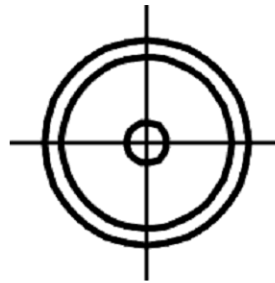

Figure 2
3. Center copies of Figure 2 under each leg to be surface mounted. Secure copies to the surface temporarily with adhesive tape. These sheets will locate the centers of holes to be drilled for anchors.